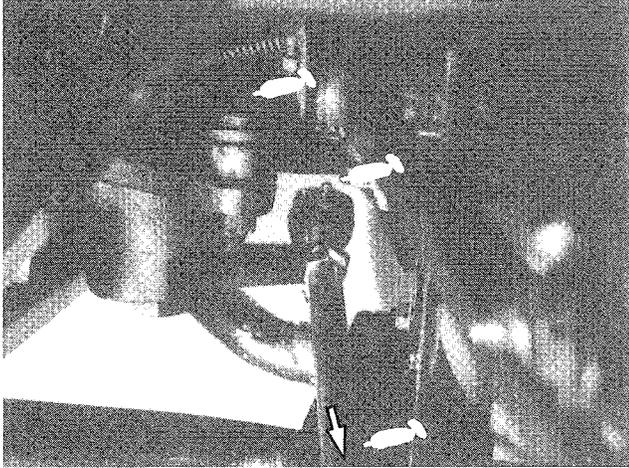
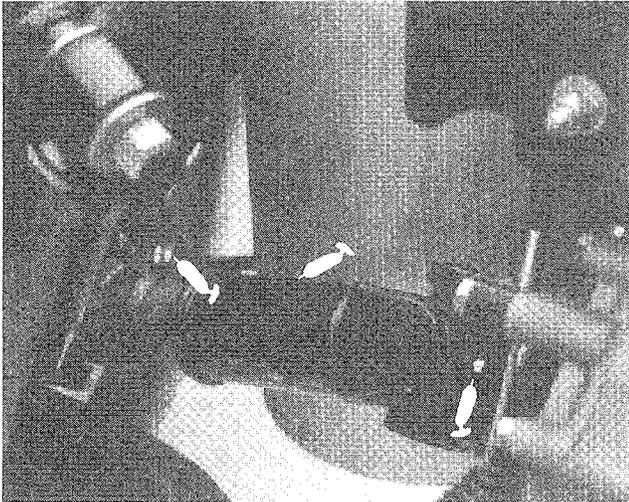
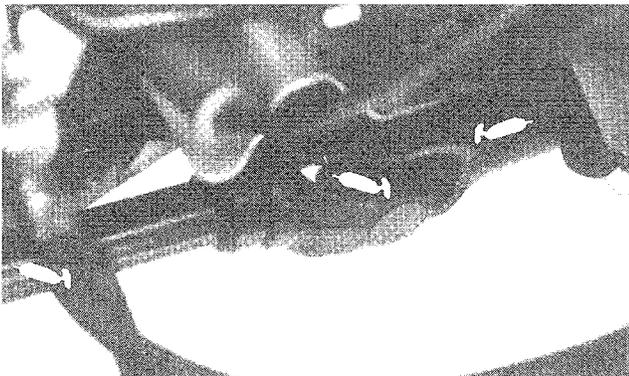
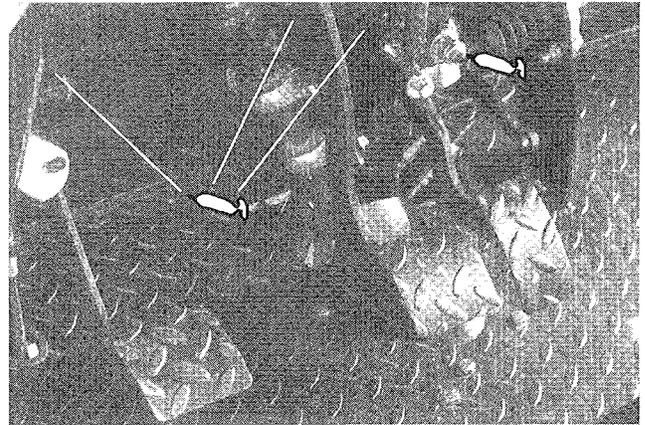

Figure 28
Figure 29
Figure 30
Figure 31
The grease fitting locations and quantities are: Tie rod ends (4) (Fig. 28), Front ball joints (4) (Fig. 28), Rear drive shafts (18) (Fig. 29), Mid drive shaft - 4 wd only (3) (Fig. 30) Pedal Pivots (4) (Fig. 31); Steering shaft (1) (Fig. 32), Front pivot bushings (2) (Fig. 33) and Governor Lever (1) (Fig. 34).